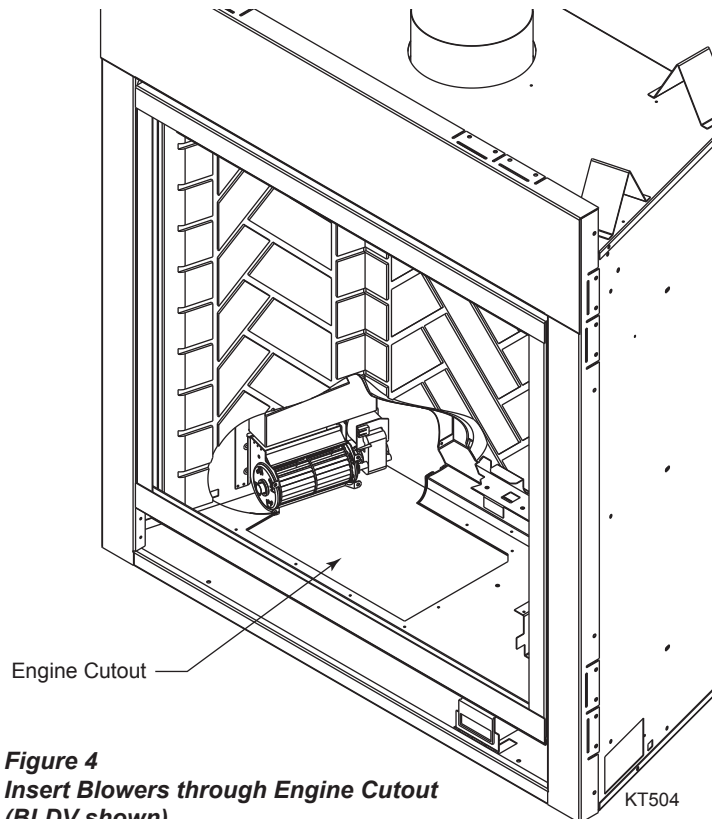

Figure 4
8. The blowers are to be inserted flat through the engine cutout in the firebox floor. Slide each blower over to the sidewall location or rear wall where the two (2) mounting brackets are located. (Fig. 4)